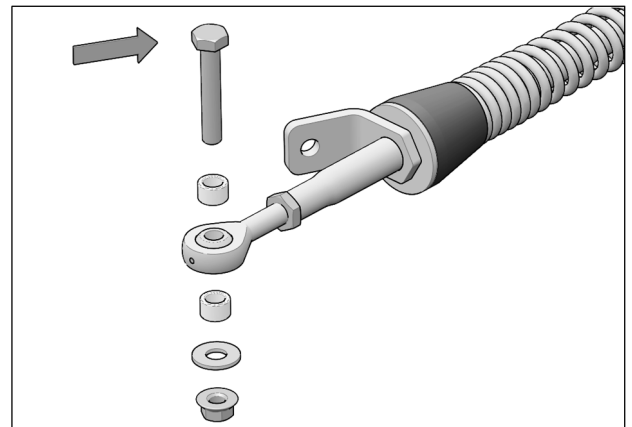

Fig. 3
- Remove M10x60mm bolt, washers and spacer bushings from rear stabilizing rod end. See Fig. 3